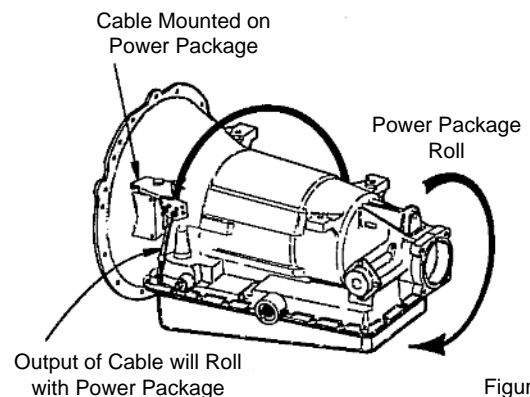

Figure 9
- c. Anchor the cable securely, so that the anchor point will not move as load is applied. In most cases, the cable end must be anchored to the object to be controlled. This is especially important on engine and transmission controls, where power package "roll" could otherwise cause inadvertent operation of the control. See Figure 9.